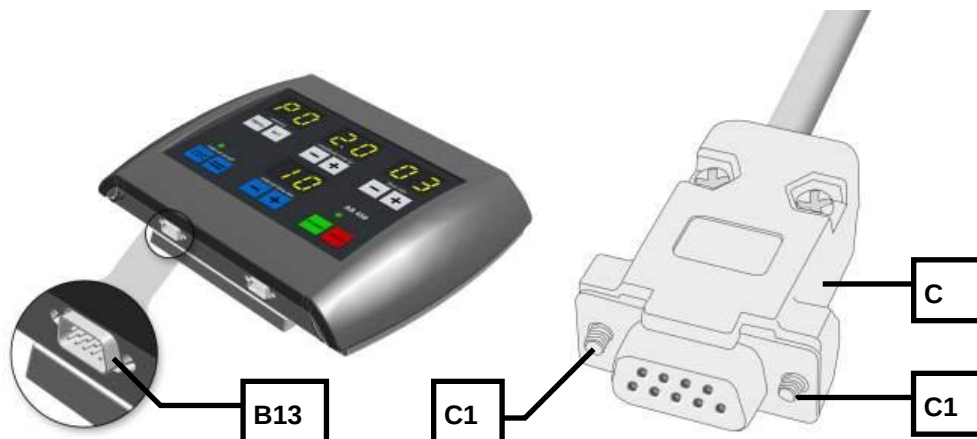

Fig. 2: Connecting the operating unit
- Turn the green handle of the quick-action clamping device until the position notch is above the number 2. (see fig. 2)